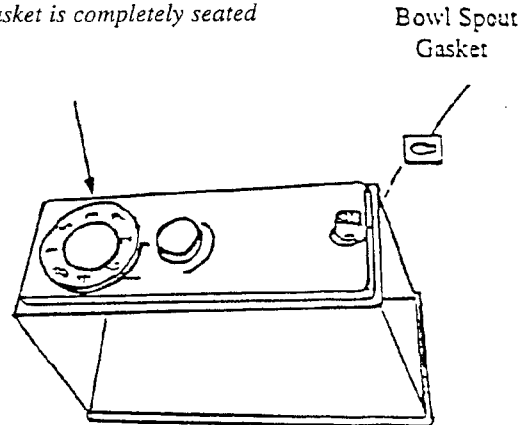

Figure 2
4. Install bowl spout gasket (See Fig. 2).